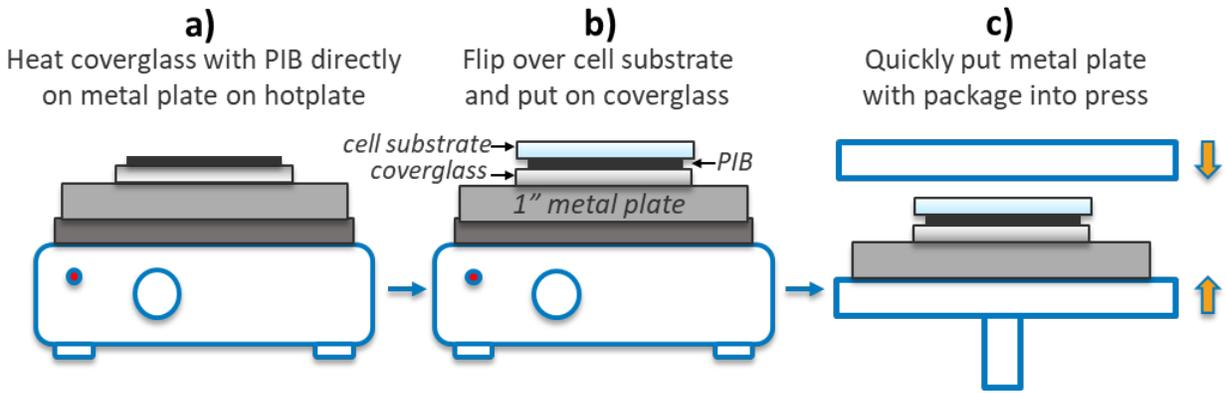

Figure 3: Process for pressing PIB package
- Figure 3 illustrates the pressing process.